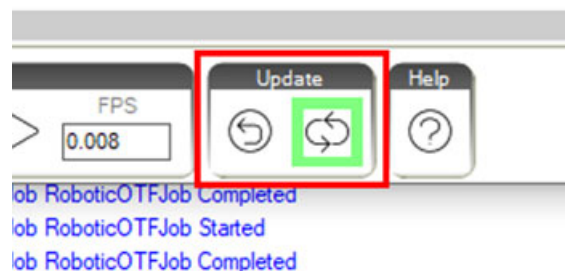

Figure 267: Timeline Update Buttons
- Update Buttons - Two buttons exist for updating the Timeline Graph. By default, Automatic update is enabled. This function causes the Timeline Graph to update automatically anytime a Process Object's parameters are updated. A single instance update button also exists, if users choose to disable the automatic update functionality. See Figure 267 (below).